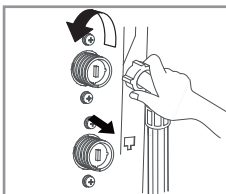

Fig.20
- Unscrew the water inlet hose. ( Fig.20 )